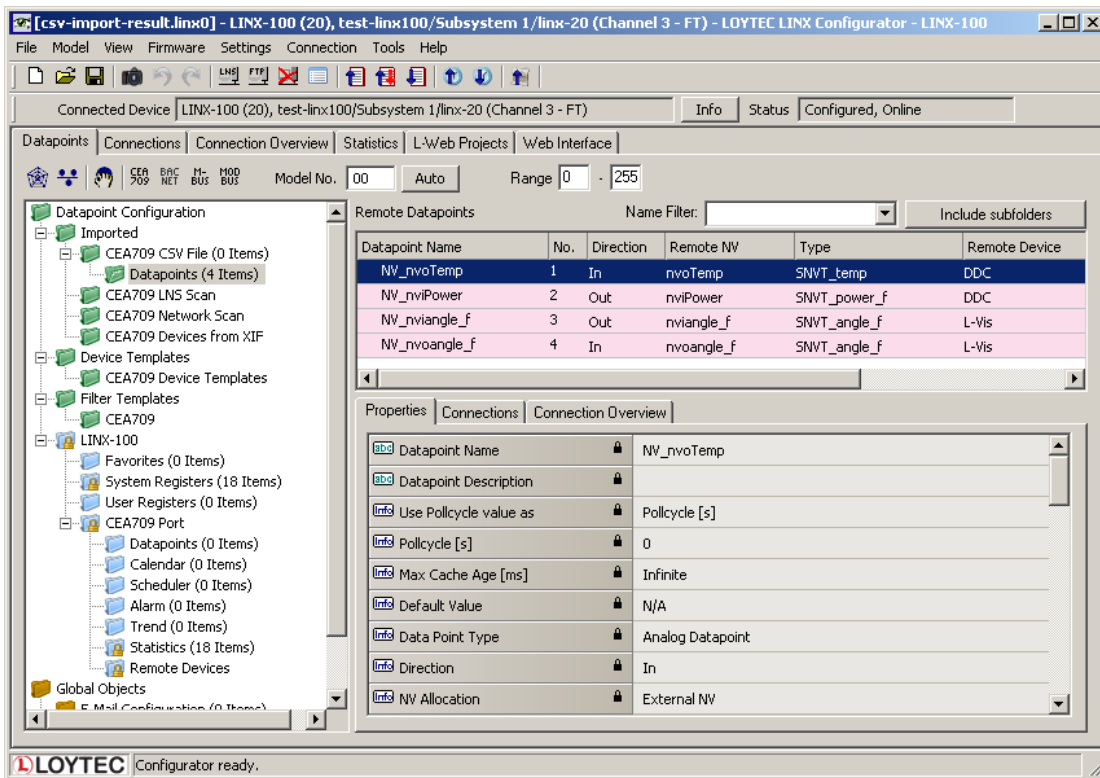

Figure 183: Imported NVs.
- Now the CSV File folder is populated with the imported NVs as shown in Figure 183.